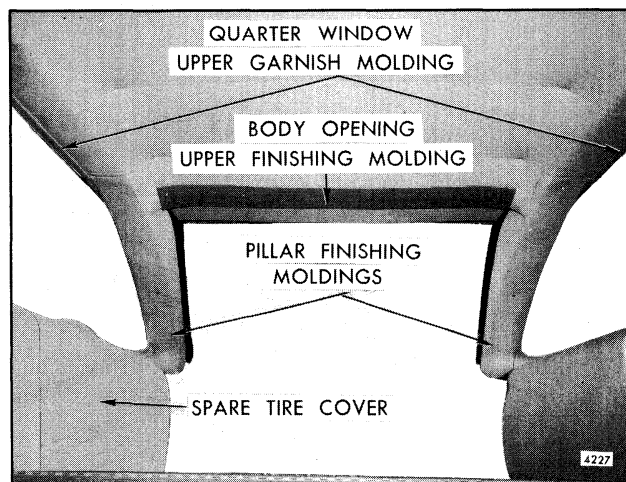

Fig. 7-116-Body Rear Finishing Moldings
over the heel of the filler strip and secured to the pillar with screws. A pillar finishing molding is applied over the filler strip and the inboard edge is tucked into the filler strip retainer. A plastic, color-keyed, filler strip is used at the top of the body opening (Fig. 7-116).
1. Remove back body pillar and/or upper body opening finishing molding (Fig. 7-116).